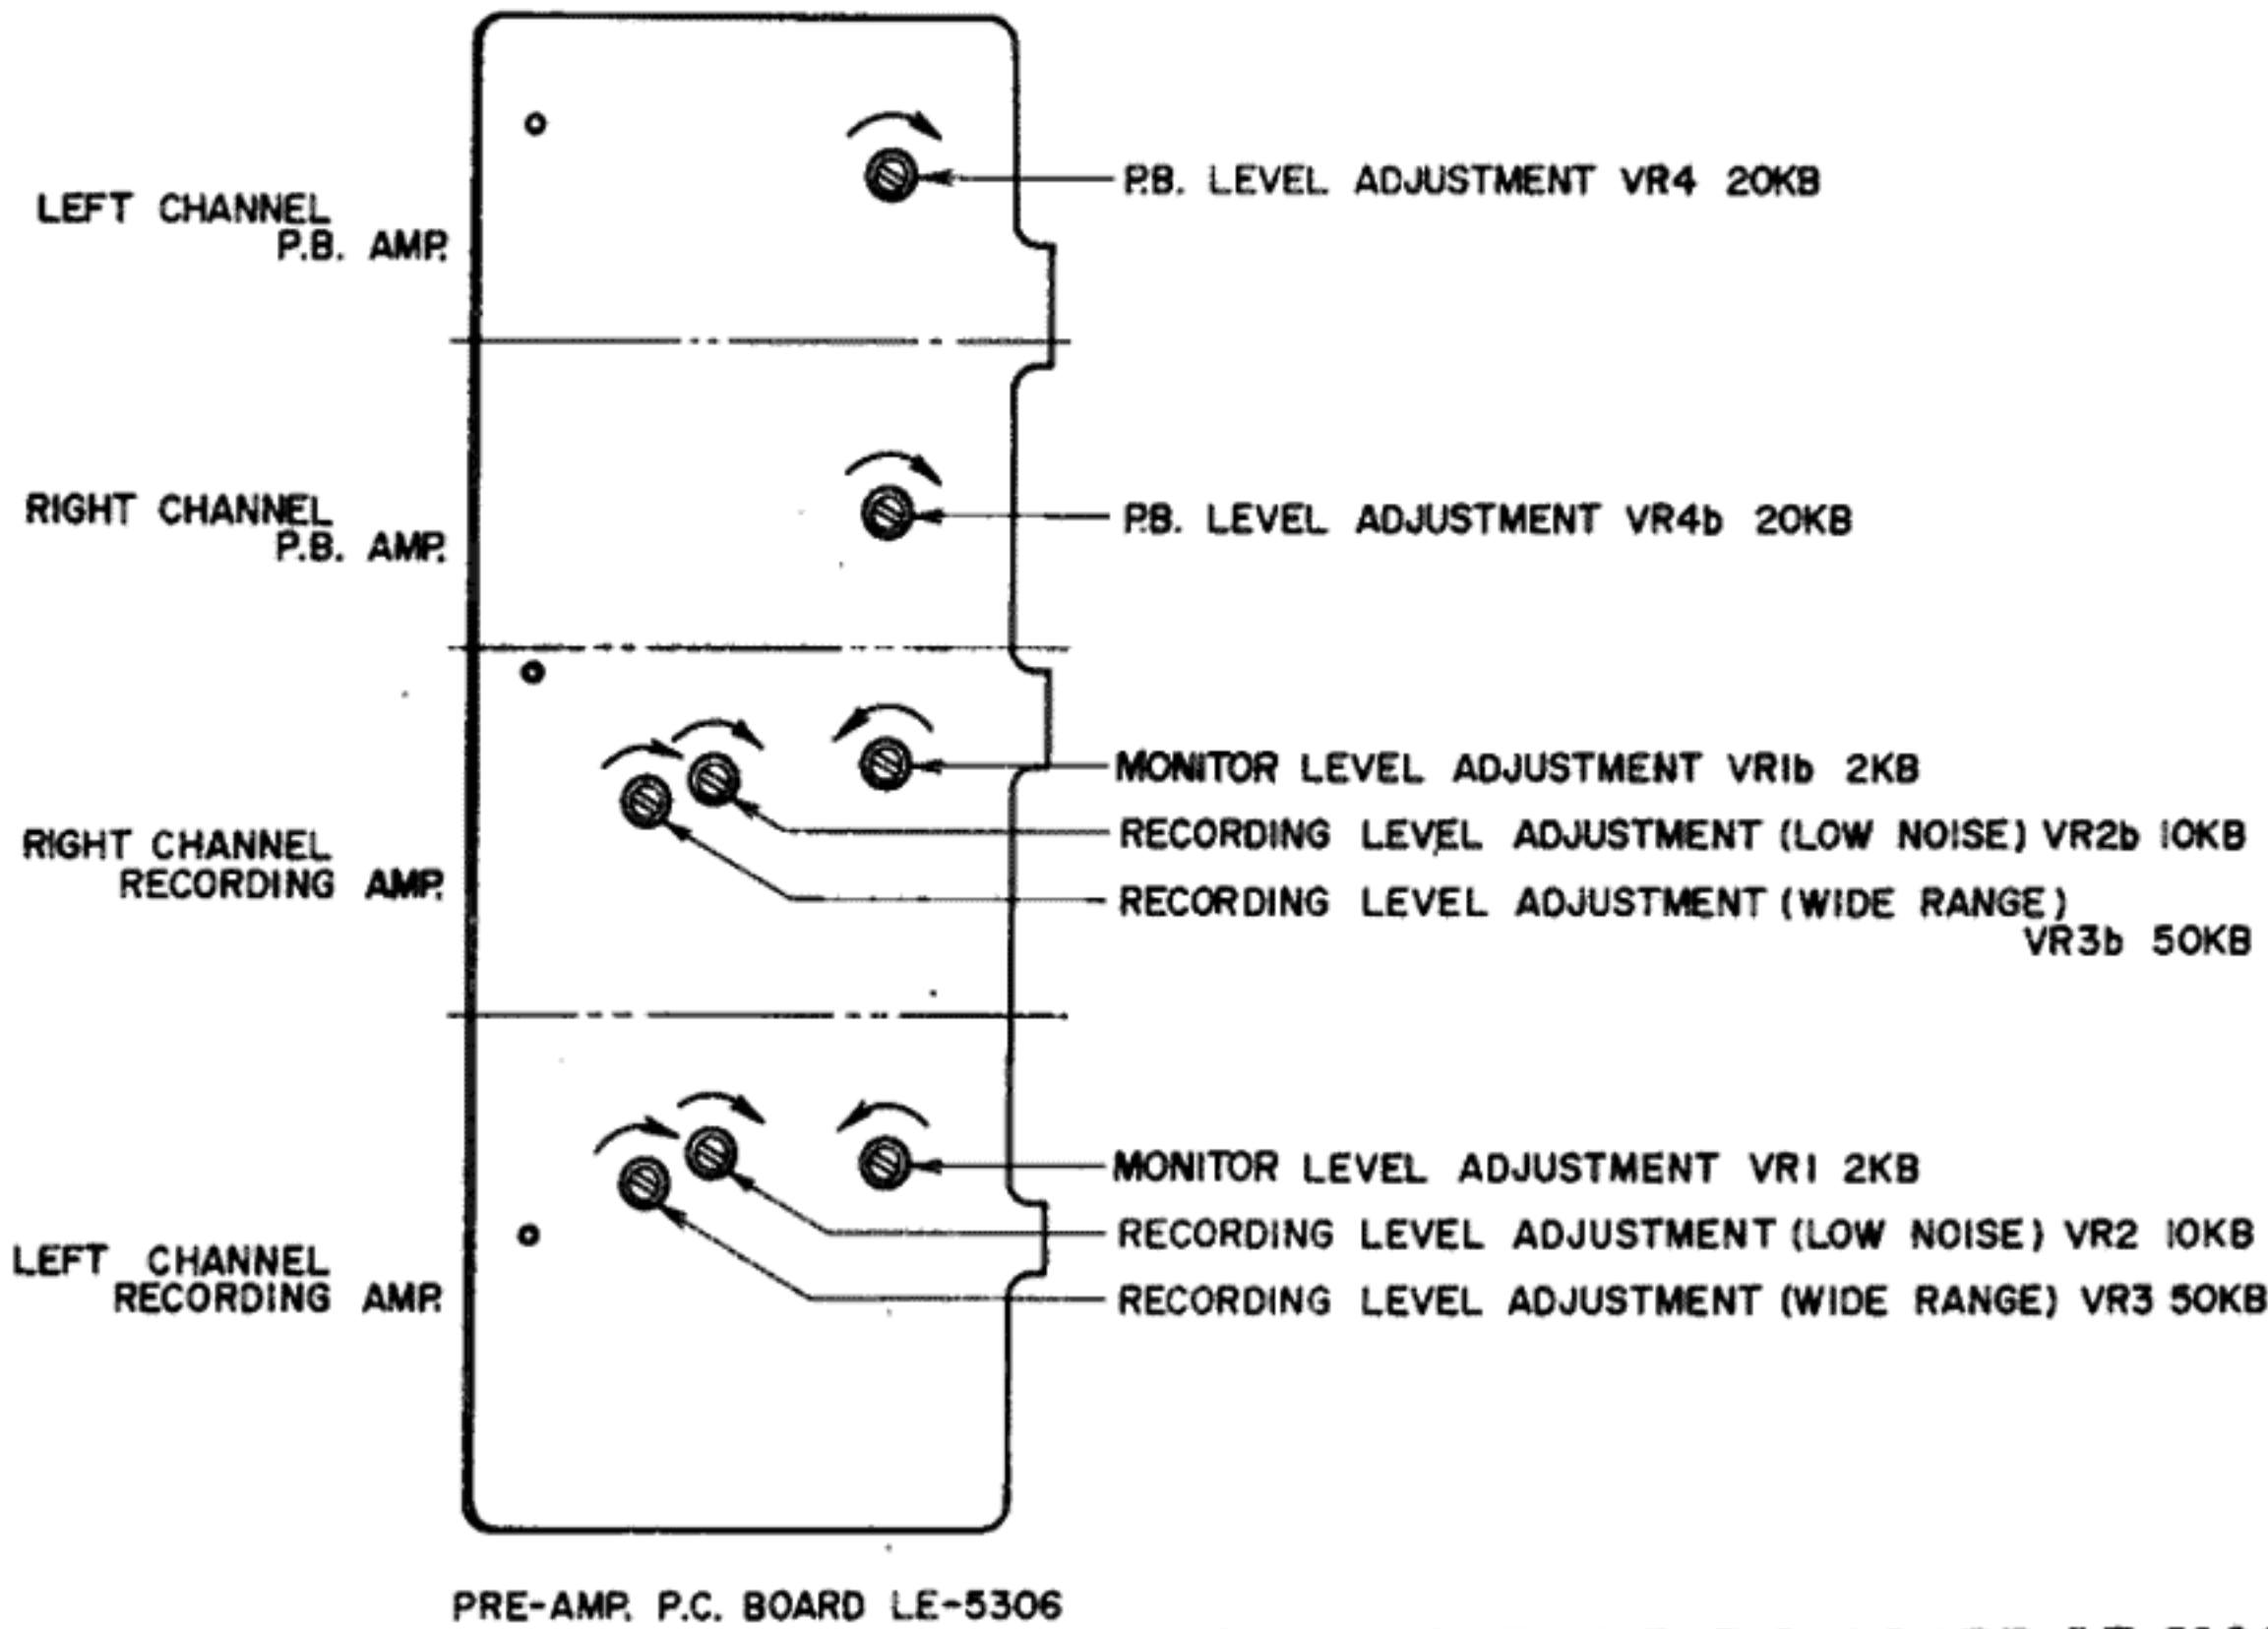

Fig. 20 PRE AMP. P.C. BOARD LE-5306
- 2) Adjust Pre-Amp. P.C. Board semi-fixed resistors VR4 20 k Ω (left channel) and VR4b 20 k Ω (right channel) shown in Fig. 20 to obtain a 0 dBm High Sensitivity V.T.V.M. indication.
(See Fig. 20)
- 3) Adjust Pre-Amp. P.C. Board semi-fixed resistors VR1 2 k Ω (left channel) and VR1b 2 k Ω (right channel) shown in Fig. 20 to obtain a 0 dBm High Sensitivity V.T.V.M. indication.
USING LOW NOISE TAPE (See Fig. 20)
USING WIDE RANGE TAPE (See Fig. 20)
- 4) Adjust Pre-Amp. P.C. Board semi-fixed resistors VR3 50 k Ω (left channel) and VR3b 50 k Ω (right channel) shown in Fig. 20 to obtain a -1 dBm High Sensitivity V.T.V.M. indication.